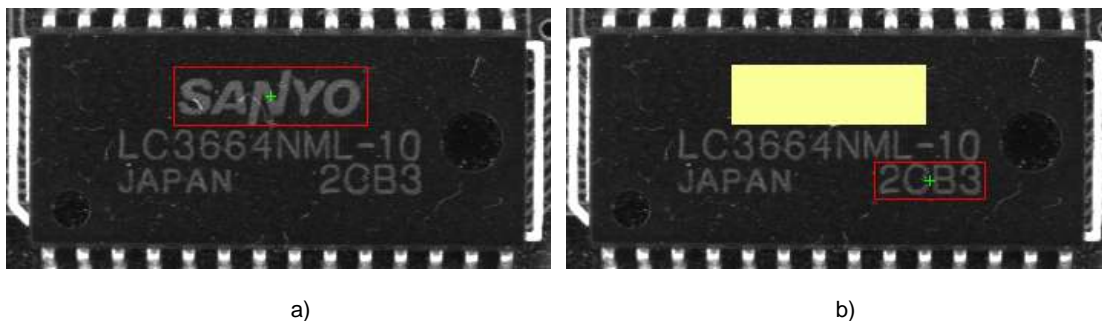

Figure 6.81: Drawing an ROI of rectangles.
You can modify the rectangle by dragging its sides or corners. Make the rectangle match the big label on the chip (see figure 6.81 a\).
- Repeat the last step to create another rectangle and make it match the lower part of the label (see figure 6.81 b\).